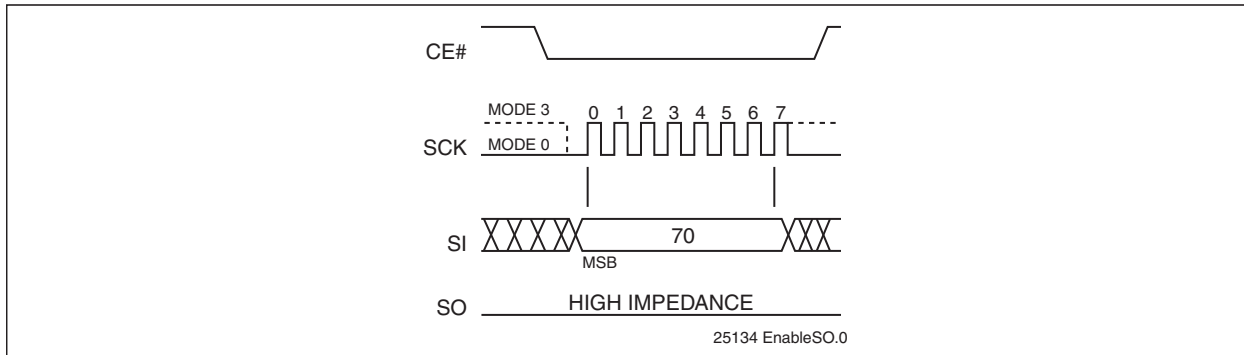

FIGURE 4-6: ENABLE SO AS HARDWARE RY/BY# DURING AAI PROGRAMMING
The Hardware End-of-Write detection method eliminates the overhead of polling the Busy bit in the Software Status Register during an AAI Word program operation. The 8-bit command, 70H, configures the Serial Output (SO) pin to indicate Flash Busy status during AAI Word programming. (see Figure 4-6) The 8-bit command, 70H, must be executed prior to initiating an AAI Word-Program instruction. Once an internal programming operation begins, asserting CE# will immediately drive the status of the internal flash status